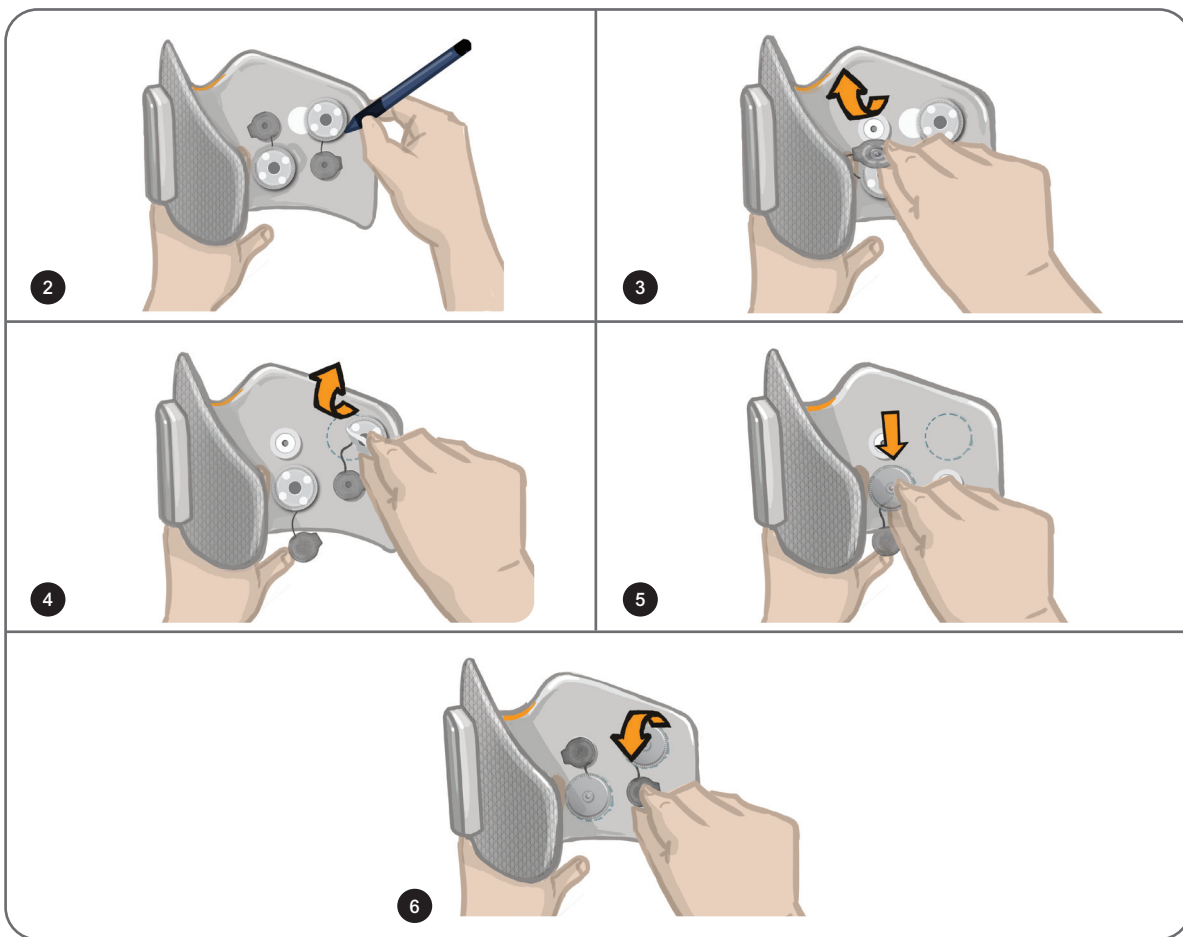

Figure 8-10: Fitting the Round Cloth Electrode Bases
**To fit the Round Cloth Electrode Bases: (See Figure 8-10)**